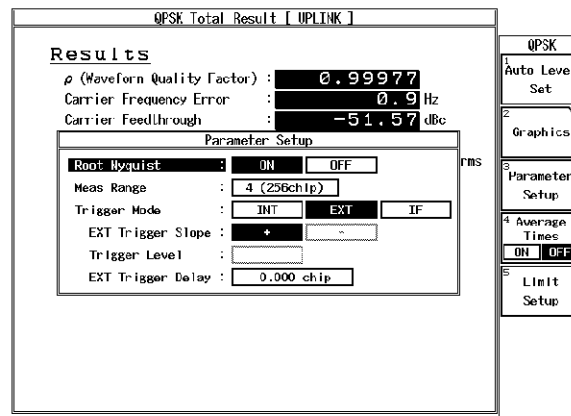

Figure 6-7 Setting of Measurement Parameters for QPSK (RF Input)
6. On the R3267 Series, set the measurement parameters as shown in Figure 6-7.